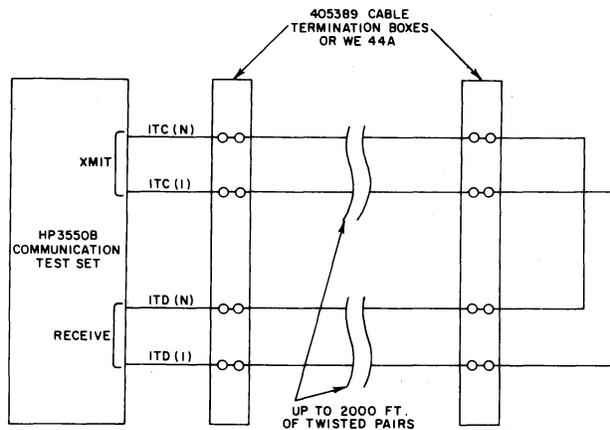

Fig. 11—Loop-Loss Measurements
7.09 The Loop-Loss Tests require a HP-3550B Communication Test Set and two jumpers. Connect the test set as shown in Fig. 11. Perform the tests in Table E.
<ol style="list-style-type: none"> 1. With the test set connected as given in Fig. 11, set up the HP-3550B as instructed in Table D. 2. Set the MEAS-CAL switch to MEAS position.